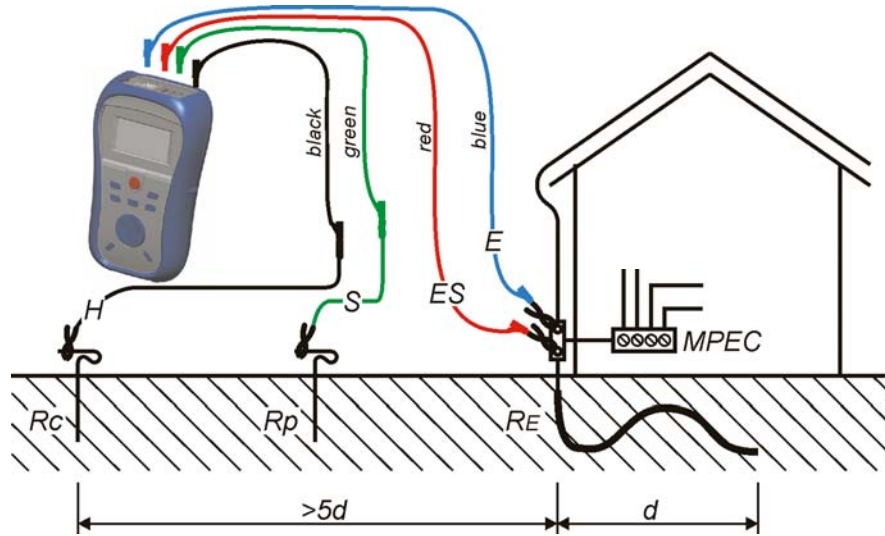

Figure 5.2: Resistance to earth, 4-wire measurement of main installation earthing
- **Connect** the test accessory to the item to be tested (see figures 5.2, 5.3, 5.5, and 5.7).